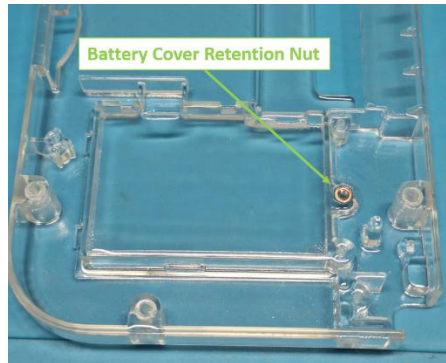

Figure 4: Resin printed shell battery compartment with retention nut
1. **Resin (SLA):** Glue the battery retention M2 nut into the designated cavity in the shell as shown in Figure 4.